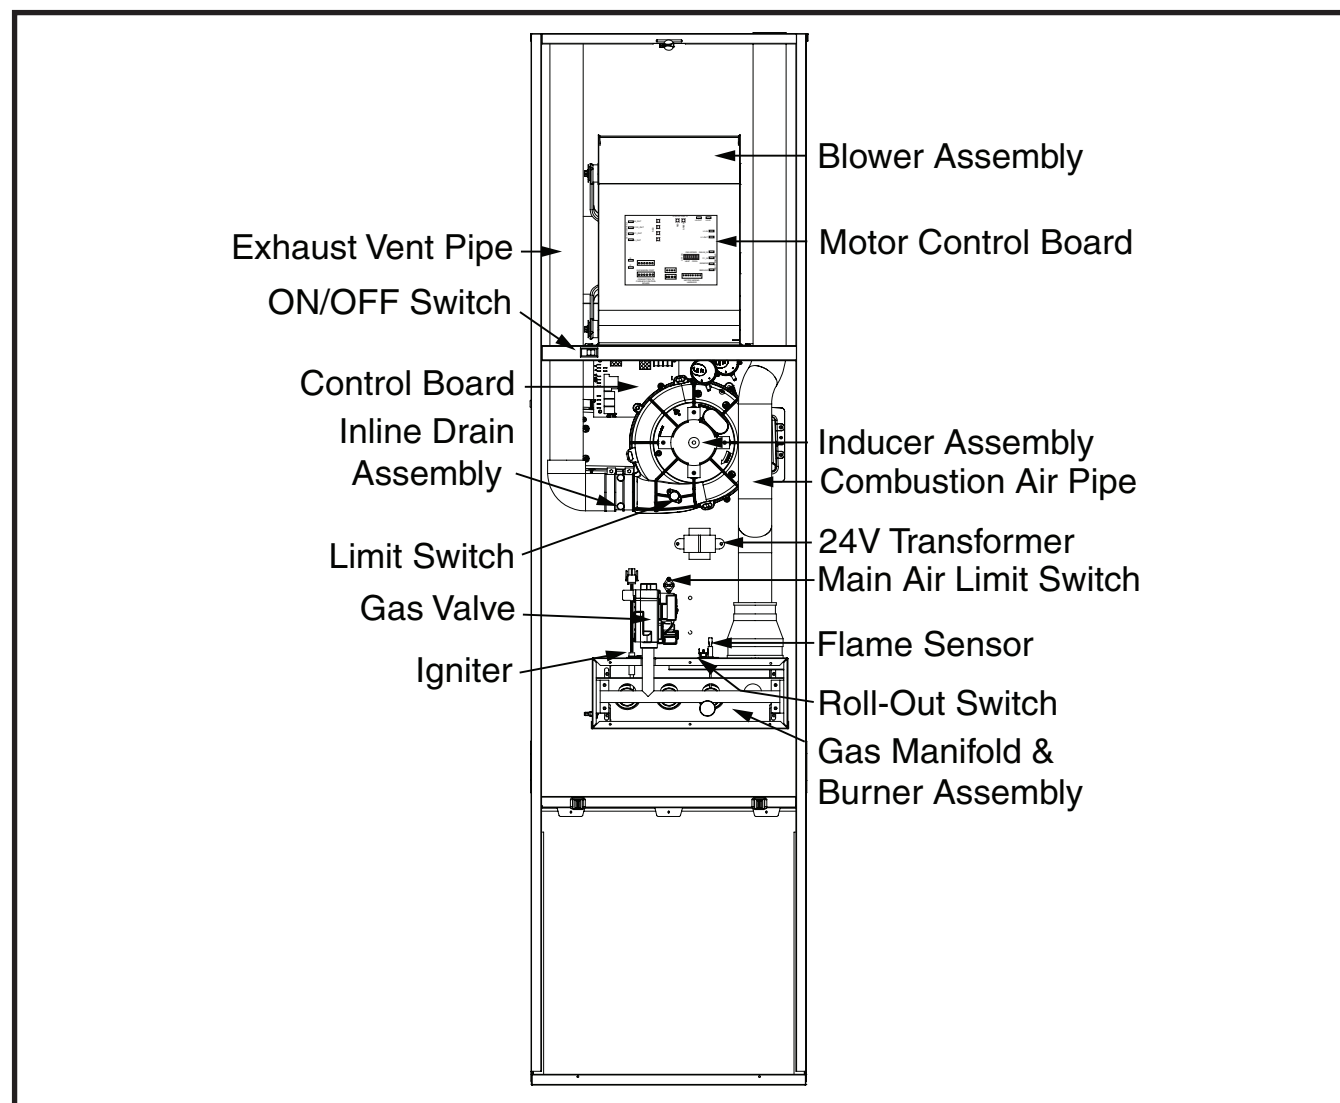

Figure 23. Furnace Components
Cleaning of Burners - If the burners must be cleaned, follow steps 1-12. For component locations see Figure 23 \(page 29\).
- If the inducer blower is operating, and items above have been verified, check the blower limit switch and reset if necessary. For component locations see Figure 23 \(page 29\).
The descriptions below are various functional components that affect the operation and shutting down of this furnace. Some of these components and their locations are shown in Figure 23. If any component of the furnace must be replaced, use only factory authorized replacement parts specified in the Replacement Parts List provided online.